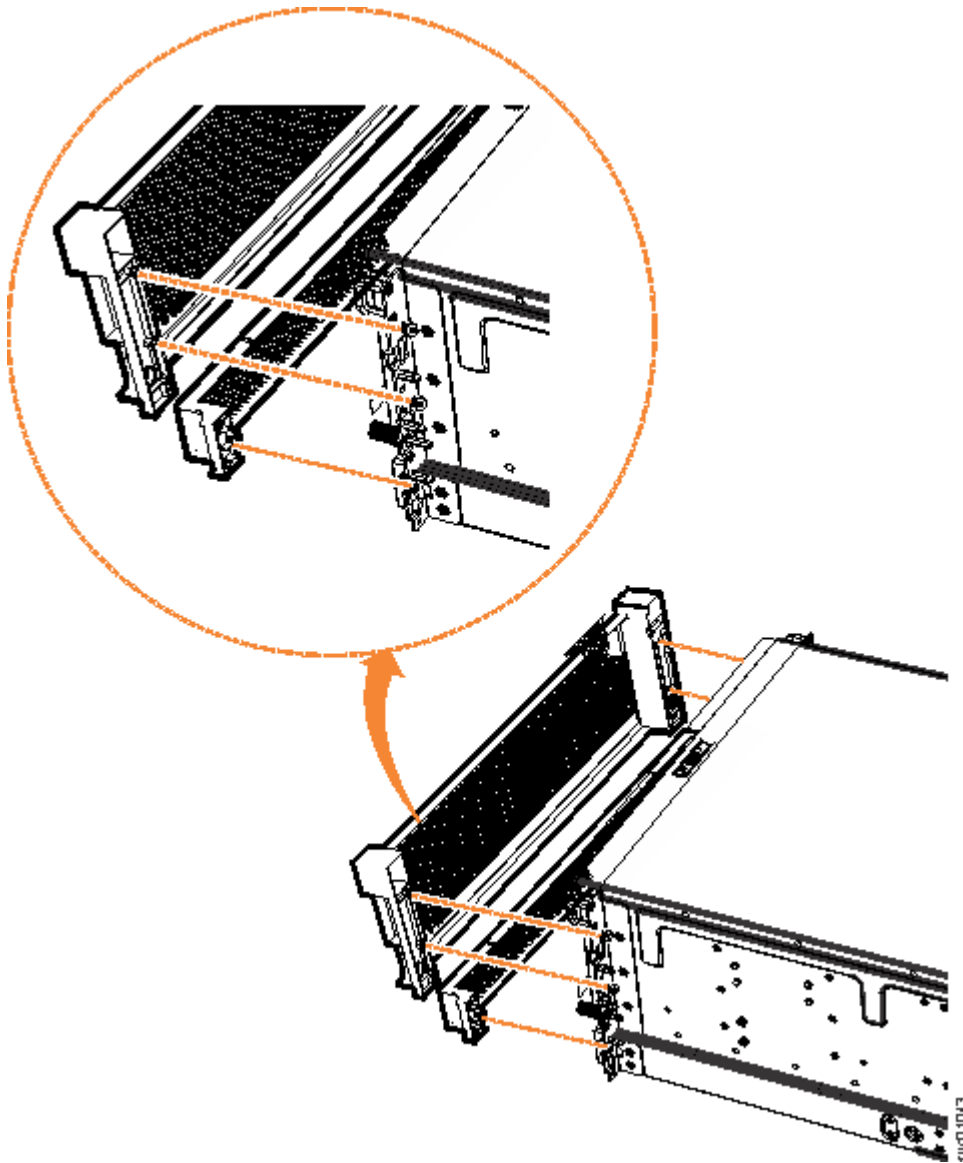

Figure 143. Remove fascia components from the expansion enclosure
2. Remove the front fascia by removing the two screws that attach the fascia to the flange on each side of the chassis, as shown in Figure 143 on page 189.
3. Gently pull on each side of the PSU fascia to remove it from the chassis, as shown in Figure 143 on page 189. The PSU fascia disengages from the slot and pin that connect it to each side of the chassis.